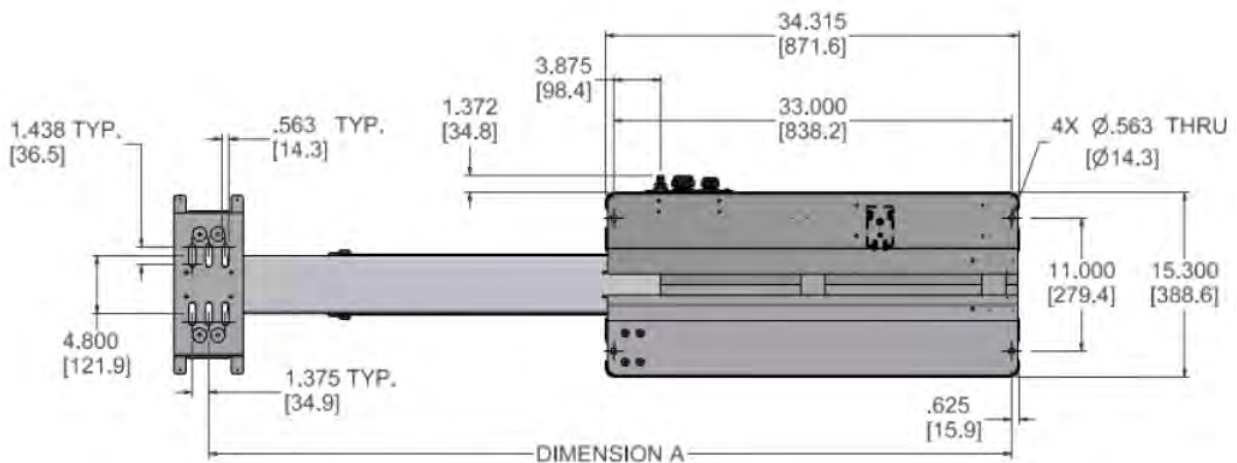

Figure 5-3 Installation Dimensions (Bottom View) Inches [mm]
1. Reference Figure 5-3 and Table 5-3 for standard mounting hole locations. These locations will vary based on which system you are using. Measure the hole locations to confirm or use the unit as a template to mark before drilling. Drill six $\text{\O}9/16$ inch (or $\text{\O}14$ mm) mounting holes into the vehicle mounting structure in the mounting locations. There are four holes for the base, and two holes for the saddle. Drill appropriate holes for cable installation and remove any sharp edges that might damage the cables.
Model	Dimension A Value (from Figure 5-3)